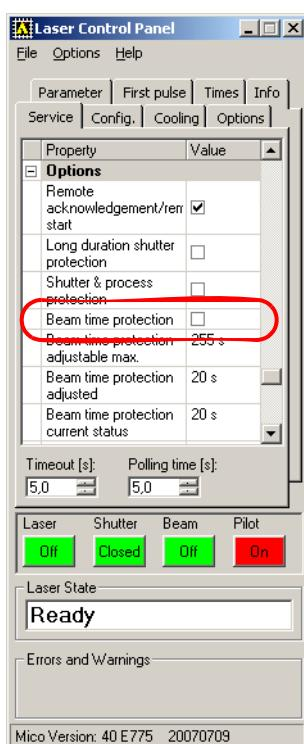

Figure 6.1 LaserControlPanel
3. Under "Service", check the activation of the beam protection time and deactivate the "Beam time protection" parameter if necessary (see Figure 6.1).